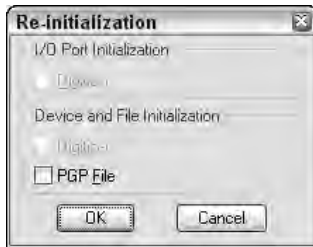

Figure 29-4: The Re-initialization dialog box
11. Close Notepad. Generally, AutoCAD only reads `acad.pgp` when loading a new or existing drawing. However, you can use the `REINIT` command to reload the file at any time. Type `reinit` ↵. AutoCAD opens the Re-initialization dialog box, as shown in Figure 29-4.